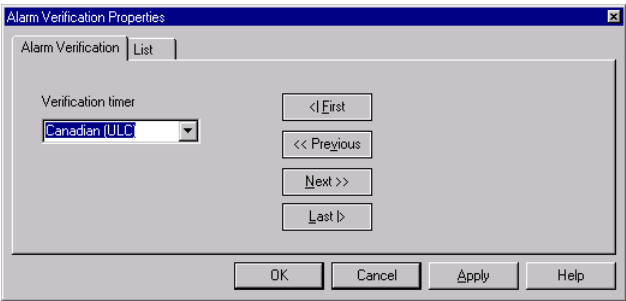

Figure 9-11. Alarm Verification Properties Dialog
1. Right Click on the group whose name you want to change and select Properties. The Alarm Verification Properties dialog shown in Figure 9-11 appears.